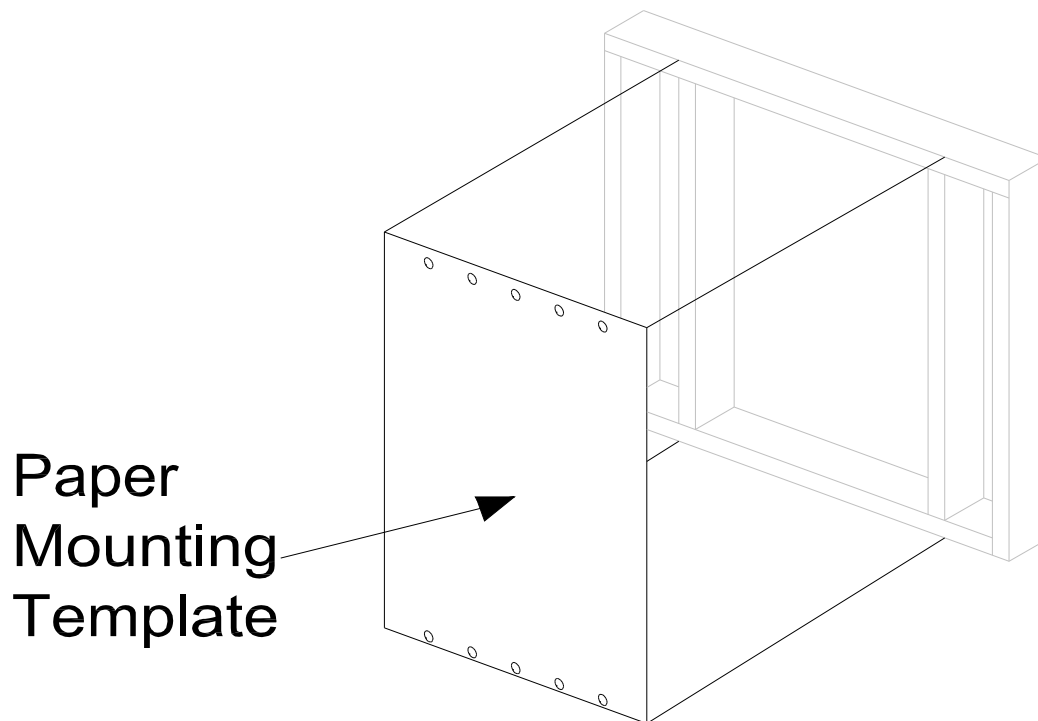

Figure 3
7. Using the paper mounting template, drill a quantity of 10, 1/4" diameter pilot holes for mounting. (See Figure 3) **OUTSIDE ONLY – DO NOT DRILL THROUGH THE FRAME.**